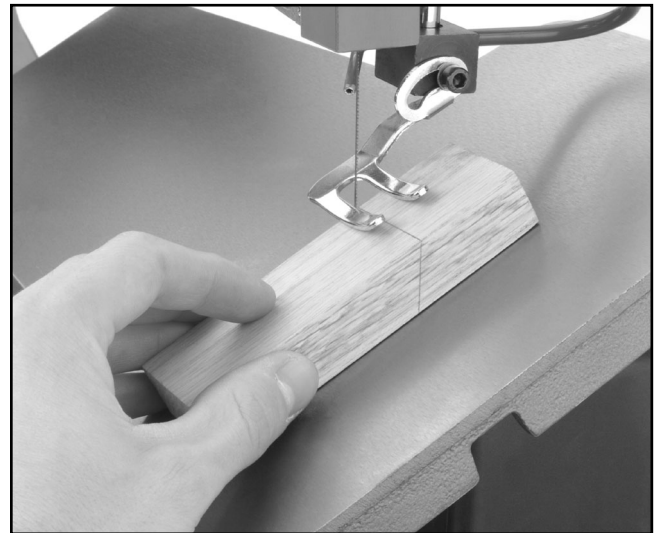

Figure 15. Making a bevel cut.
3. Using the same principles as in the previous sections, feed the work slowly and evenly into the blade, remembering not to force the workpiece (**Figure 15**).